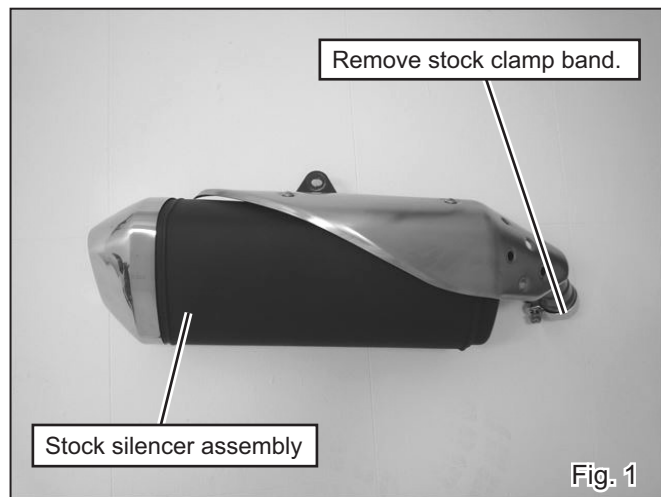

Fig. 1
- 3) Remove stock clamp band from stock silencer assembly removed at step 2) (See Fig. 1).